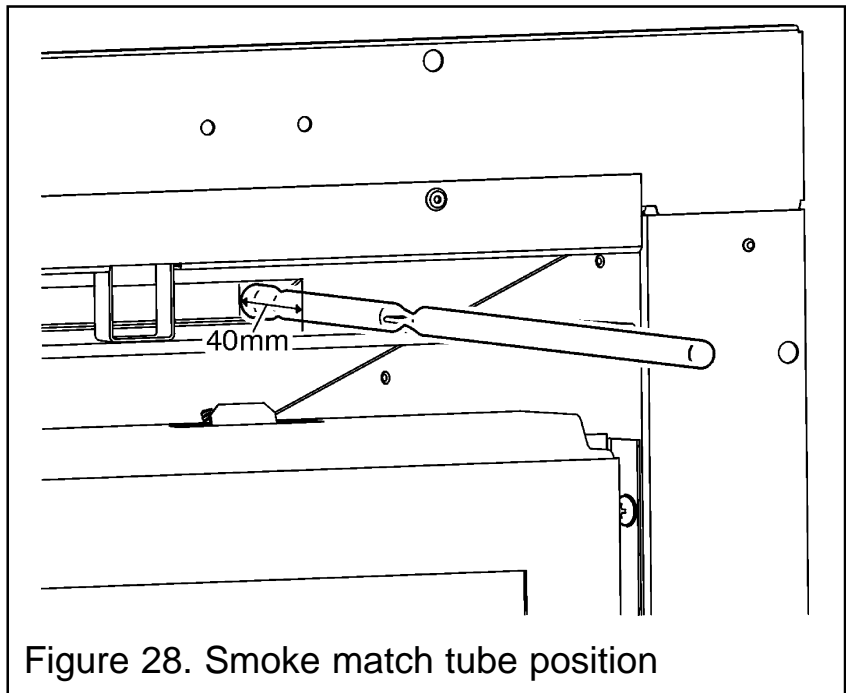

Figure 28. Smoke match tube position
4. At the top of the heater are two openings. The upper opening has a tapered rear that has an opening of its own. The smoke match should be placed horizontally into this opening so that it touches the right hand side of the opening. It should pass the upper part of the opening by 40mm (See figure 28).